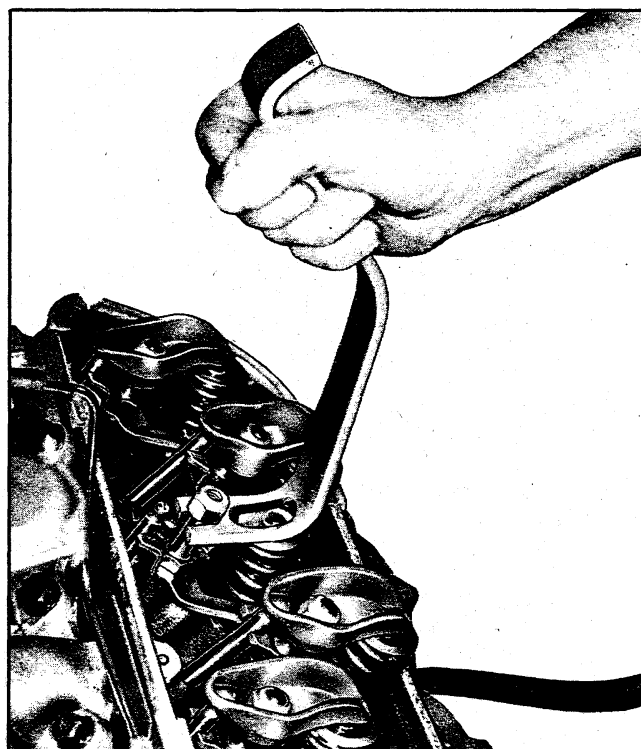

Fig. 7V - Compressing Valve Spring
4. Using Tool J-5892 to compress the valve spring, remove the valve locks, valve cap, and valve spring and damper (fig. 7V).